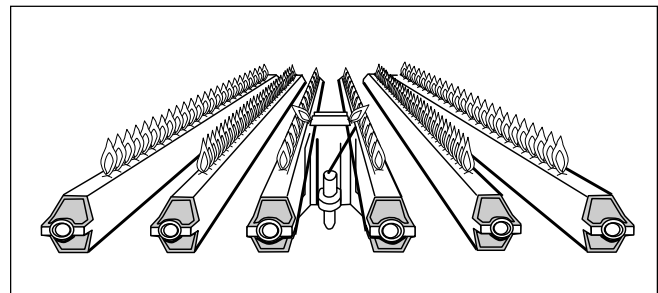

Figure 16. Main Burner Flame Pattern.
2. If a strainer is employed in a pressure reducing valve or in piping, clean it every six (6) months.
3. At start-up and every six (6) months thereafter, the pilot and main burner flame should be observed for proper performance (see Figure 16). See attached lighting and shut-down instructions for proper pilot flame pattern). If flame has the appearance of "sooting" tips, check for debris near orifices. Call serviceperson.